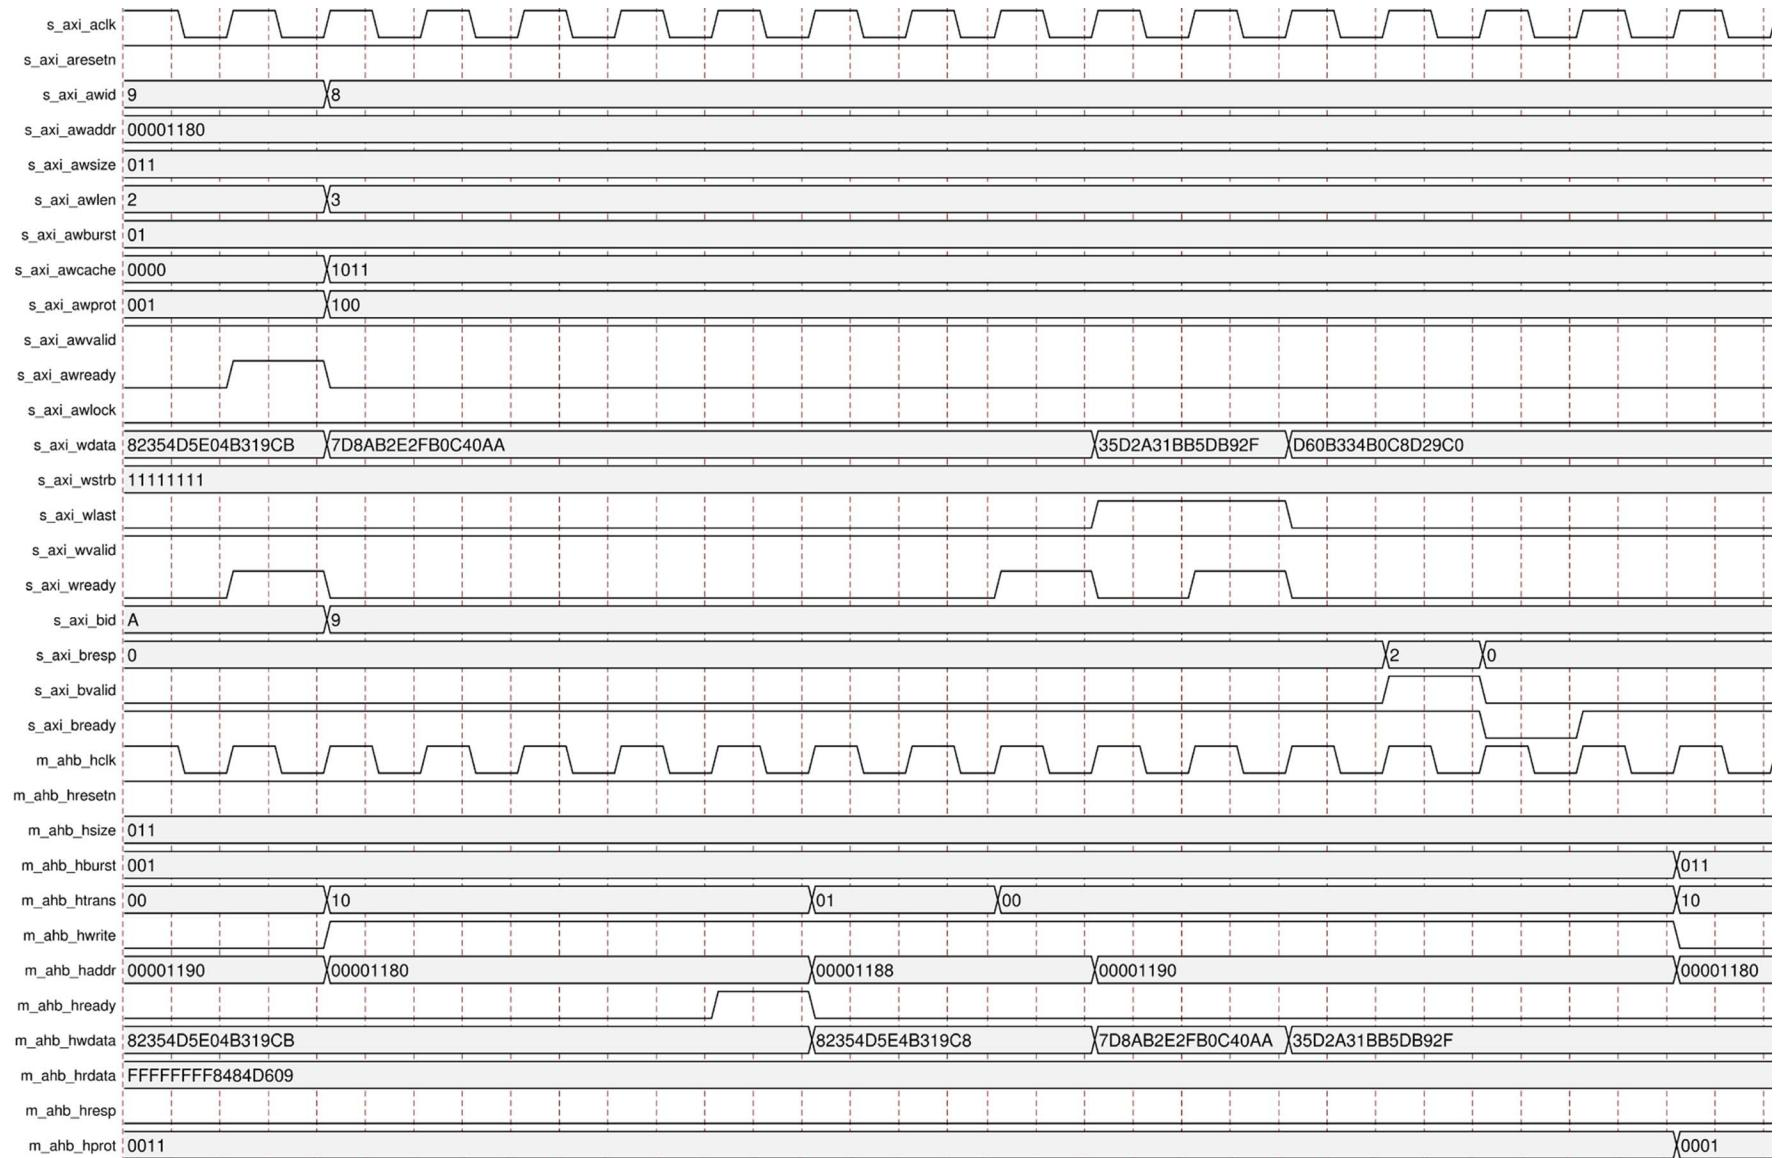

Figure 3-15: AXI4 Write Timeout of 16
15. AXI4 write timeout of 16 is shown in Figure 3-15. AXI4 write transfer is completed with a SLVERR response.